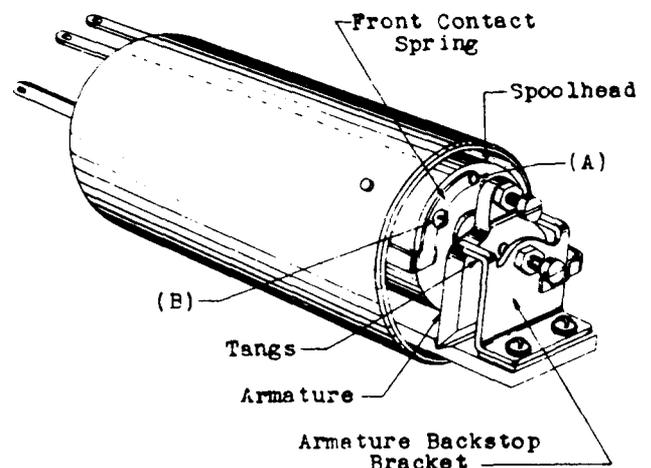

Fig. 2
- 2.04 Front Contact Spring Position - Fig. 2 (A) - The front contact spring shall rest firmly against the spoolhead at least near the contact end. Gauge by eye.
- 2.05 Tightness of Front Contact Spring Screw - Fig. 2 (B) - The front contact spring screw shall be sufficiently tight to hold the front contact spring in the adjusted position.